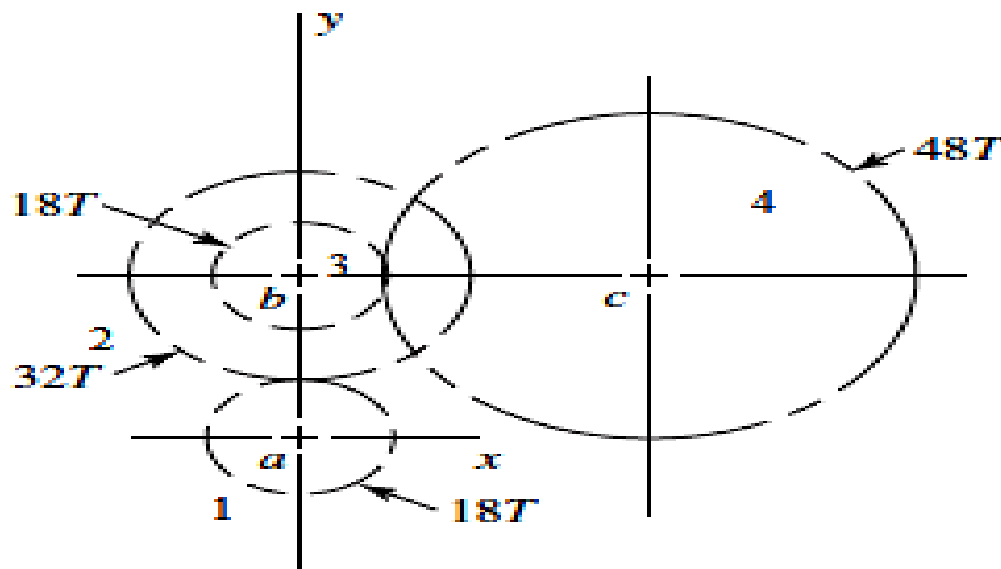

Fig:1
3. All the gears of the gear assembly shown in the Fig.1 is having a module of 16 mm and a 20° pressure angle. Gear 1, mounted on shaft 'a', is the pinion which is having 18 number of teeth. The pinion receives 200 kW of power from a motor at a speed of 1800 rev/min and transmits it to gear 4 on shaft c through the idler pair of gears 2 and 3 mounted on a single shaft b. The pinion rotates in clockwise direction. Draw the side view of the gear assembly showing direction of rotation of each gears and determine what forces do gears 2 and 3 transmit to the idler shaft 'b'? Also draw the FBD of sub-assembly of gears 2, 3 and shaft 'b' showing forces.